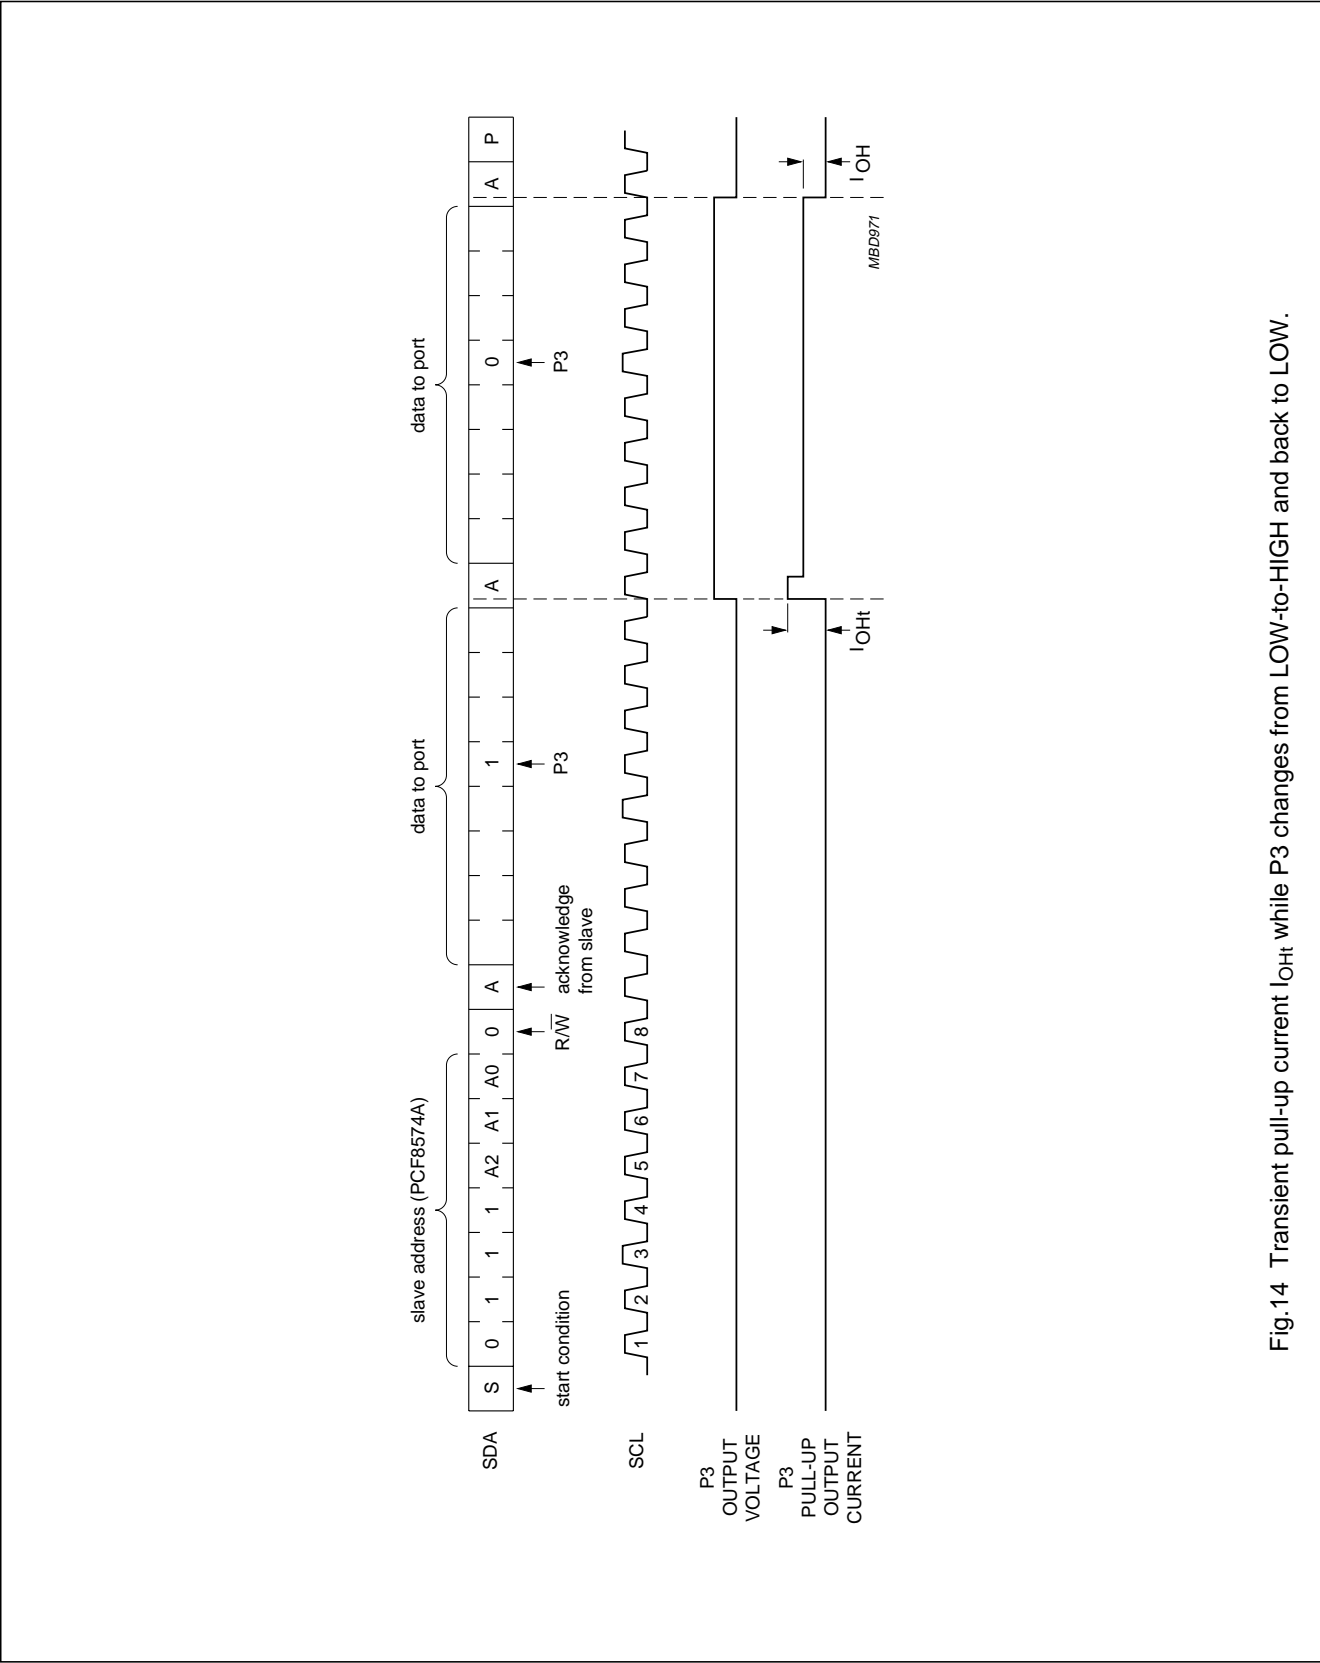

Fig.14 Transient pull-up current I_{OHt} while P3 changes from LOW-to-HIGH and back to LOW.
7.3 Quasi-bidirectional I/Os (see Fig.14)